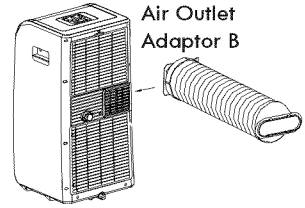

Fig.17
2. Align tabs of B adaptor with slots of air outlet and push down to secure in place (see Fig. 17).